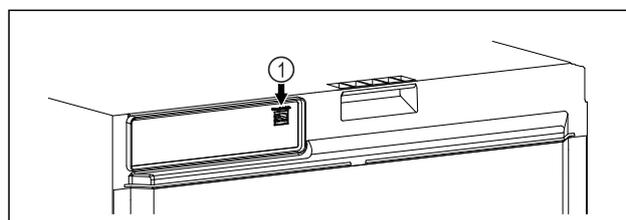

Fig. 119
- SmartModule Fig. 119 (1) has been inserted.